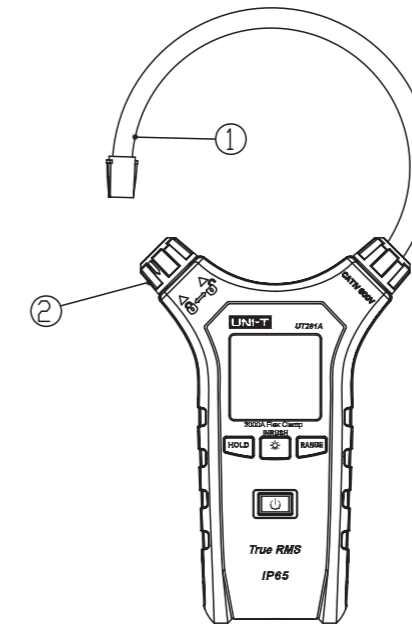

Figure 3
2. Rotate the clamp lock counterclockwise and move the flex clamp (as Figure 3).